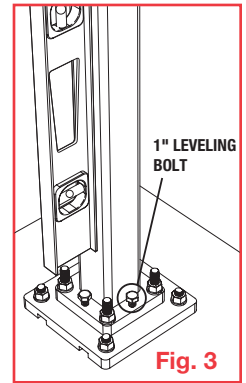

Fig. 3
- Check the post with a level. If the post needs to be adjusted for plumb install four of the supplied 1" leveling bolts. (Fig. 3) Adjust the leveling bolts until post is plumb and all four leveling bolts are in contact with the concrete surface plate.